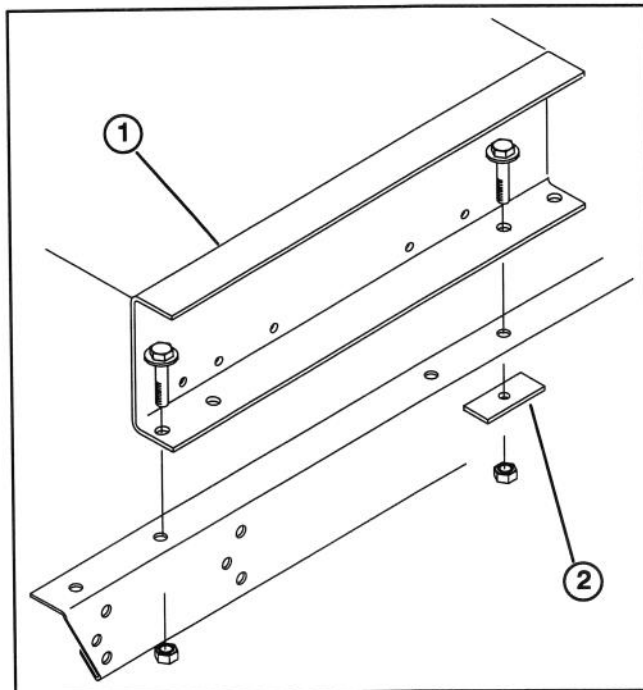

Figure 8
28. Mount each side of lift to frame channels with a reinforcing plate and (2) 3/8-16 x 1" lg. flange head capscrews and flangenuts (Fig. 8). Reinforcing plates to be used in rear mounting holes only.